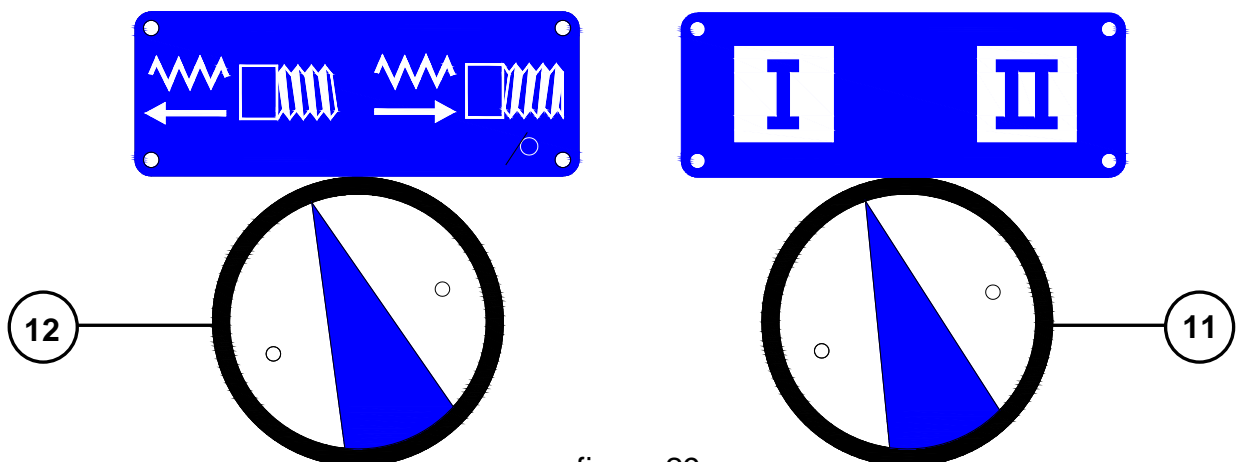

figure 29
The **PL-1640** lathe can cut both left and right while feeding or threading, and across the ways when performing facing operations. The feed direction is controlled with the selection knob (12) as shown in (fig. 29). When rotated to the left position the apron will move to the left along the bed, as indicated by the arrow, or the cross feed will travel away from the operator.